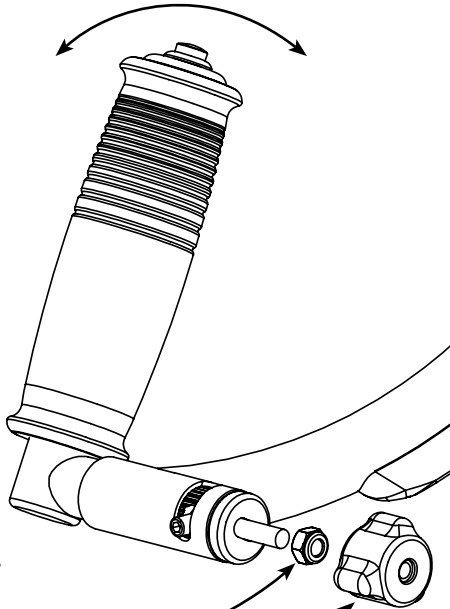

Fig. FS-18
Step 1: Remove the wing knob and Loosen the nylock nut counter clockwise to allow free handle movement (see Fig FS-18).